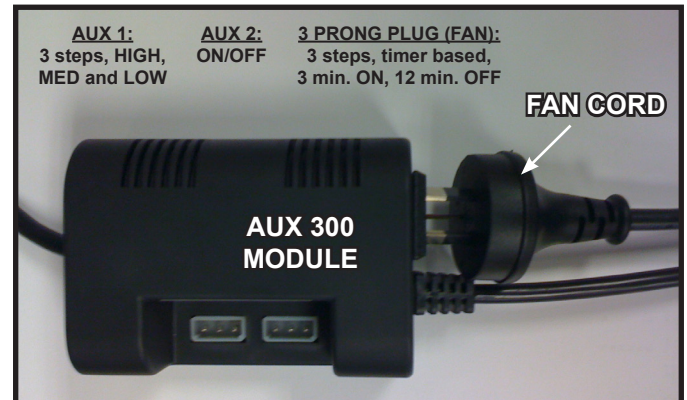

Figure 12.10 Plug Fan into AUX300CE Module
- Insert the 3 prong plug from the fan into the receptacle located in the AUX300CE module. See Figure 12.10.
- Move switch to *OFF* (See Figure 12.10).